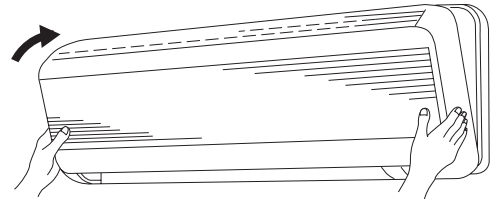

Fig. 1-74a
- (1) Close the flaps.
- (2) Reinstall the grille into the lower part while aligning its tabs on the upper part. (Fig. 1-74a) Insert the tabs in the slots and push the lower part of the grille back into position.